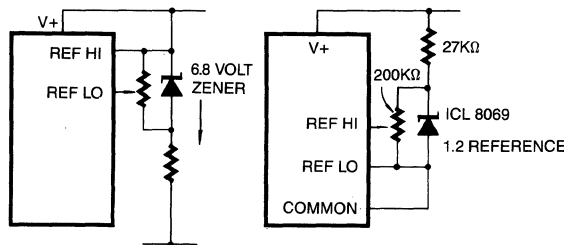

Fig. 4: Using an External Reference
The limitations of the on-chip reference should be also recognized, however. The reference temperature coefficient (TC) can cause some degradation in performance. Temperature changes of 2 to 8°C, typical for instruments, can give a scale factor error of a count or more. Also the common voltage will have a poor voltage coefficient when the total supply voltage is less than that which will cause the zener to regulate ($< 7V$). These problems are eliminated if an external reference is used, as shown in Fig. 4.